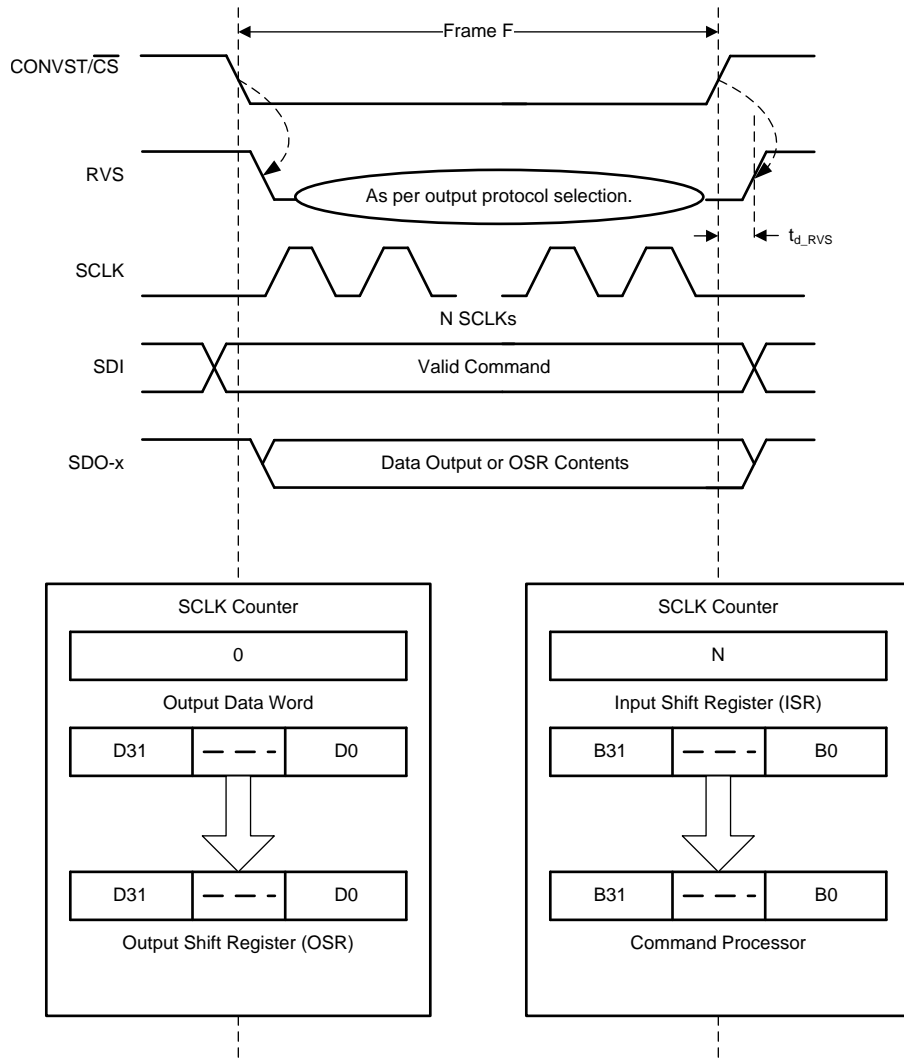

Figure 70. Data Transfer Frame
A data transfer frame between the device and the host controller begins at the falling edge of the CONVST/ \overline{CS} pin and ends when the device starts conversion at the subsequent rising edge. The host controller can initiate a data transfer frame by bringing the CONVST/ \overline{CS} signal low (as shown in Figure 70) after the end of the CONV phase, as described in the CONV State section.
- The device takes control of the data bus. As illustrated in Figure 70, the contents of the output data word are loaded into the 32-bit output shift register (OSR).
- As illustrated in Figure 70, the contents of the input shift register are transferred to the command processor for decoding and further action.